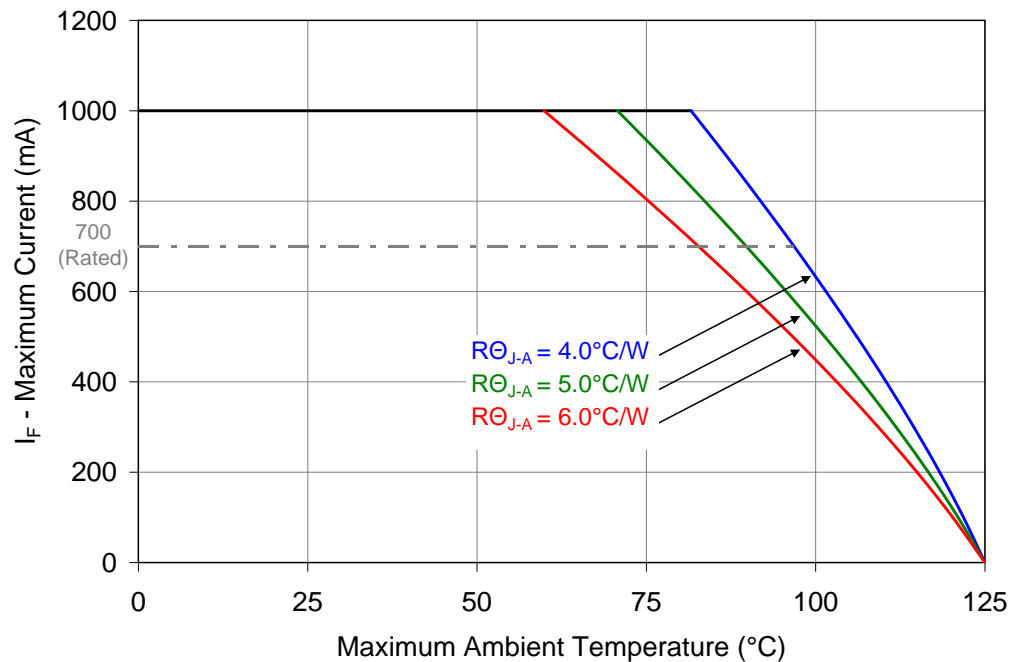

Figure 10: Maximum forward current vs. ambient temperature based on $T_{J(\text{MAX})} = 125^\circ\text{C}$.
- Maximum DC forward current (per die) is determined by the overall thermal resistance and ambient temperature. Follow the curves in Figure 10 for current derating.
Notes for Figure 10: